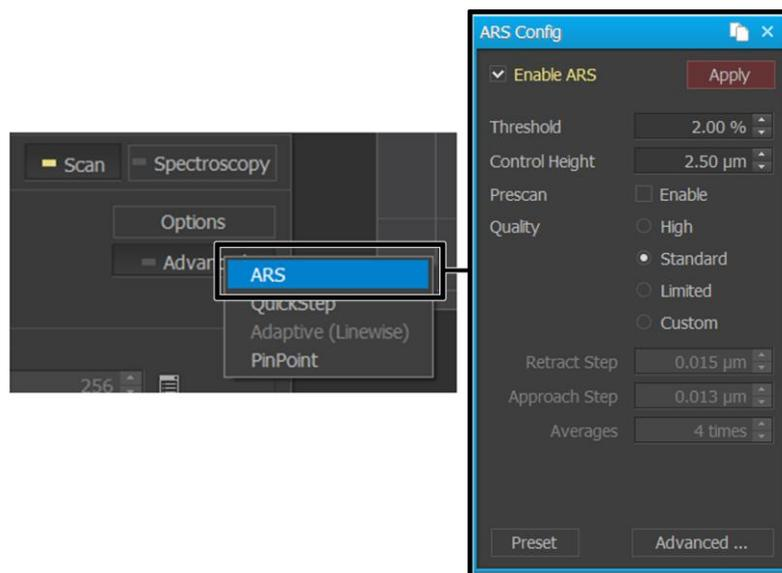

Figure 8-24. ARS Mode Setup
1. After approaching in DC mode, select 'ARS Mode Setup'. Z servo will automatically be deactivated. Changing Head Mode to SICM Mode will add "ARS" to Advanced, as shown in Figure 8-24. (Does not appear in Advanced Window selection menu when not in SICM Mode.)